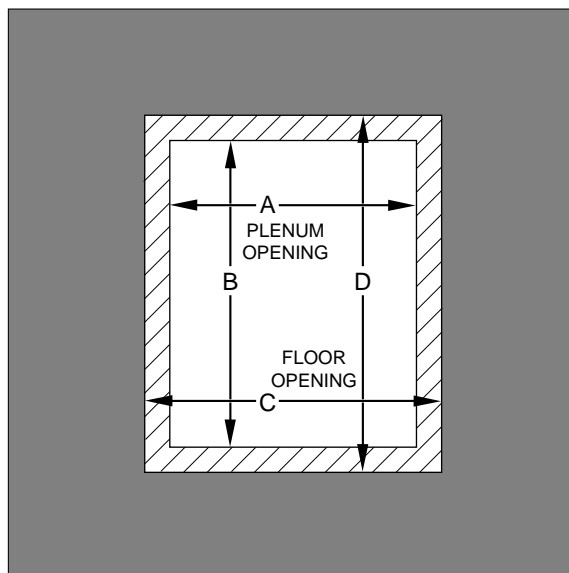

Fig. 5—Floor and Plenum Opening Dimensions
2. Construct hole in floor per dimensions specified in Table 3 and Fig. 5.